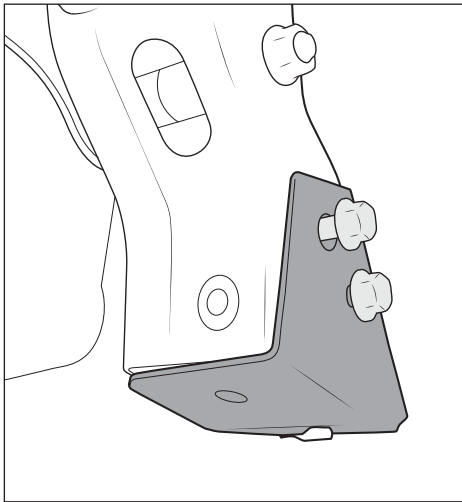

Figure 30
- Install provided skidplate mounting brackets using M10 hex bolts and washers from skidplate kit. Hold the brackets tight to the bottom of the compatibility beam and torque bolts to 30 ft-lb (fig. 30).